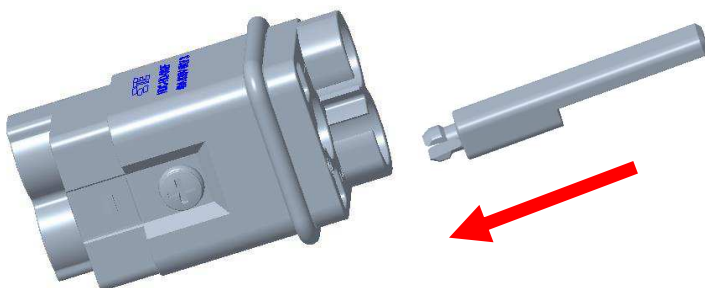

Figure: 11
- 1.) Fully insert coding pin into the inserts, see Figure 11.